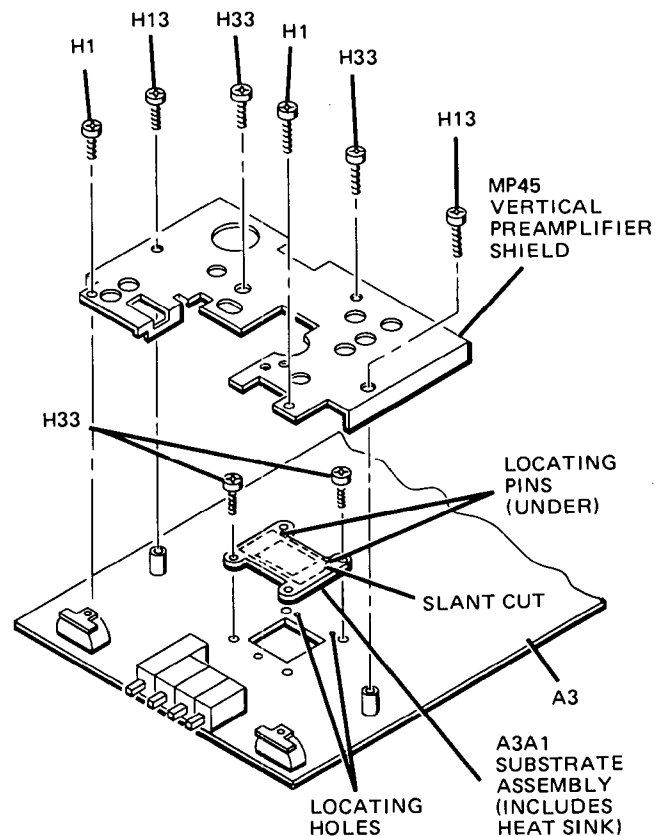

Figure 8-6. A3A1 Removal
To remove A3A1, see figure 8-6 and proceed as follows:
e. To reinstall substrate assembly A3A1 reverse removal procedure; be certain that orientation of parts is as shown in figure 8-6.